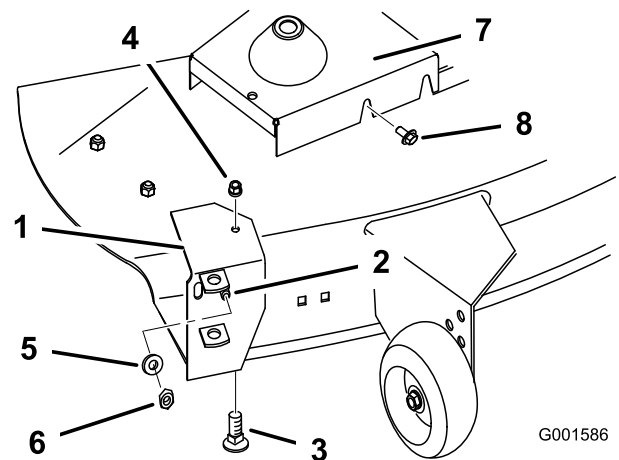

Figure 33
1. Remove the pivot support and pivot bracket from the mower (Figure 33).
2. Install the previously removed hardware in the open hole of the mower for safety (Figure 33).
3. Install the mower belt cover using existing hardware (Figure 33).